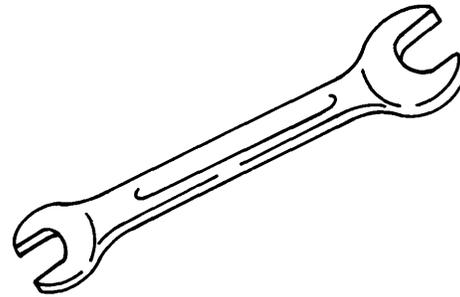
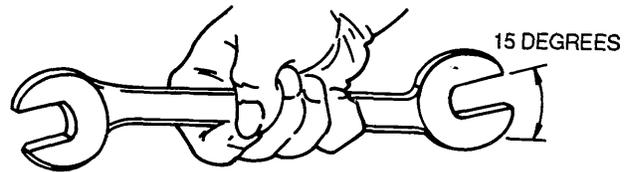

Figure 4-20. Open-End Wrench
Figure 4-21. Open-End Wrench Jaw Offset
(1) **Open-end wrenches.** Open-end wrenches have two parallel jaws at each end of a bar, as shown in figure 4-20. The jaws of an open-end wrench are usually machined 15 degrees from parallel to the centerline of the wrench, as shown in figure 4-21. The two ends of each wrench fit consecutively-sized nuts such as 3/8- and 7/16-inch, 1/2- and 9/16-inch, and so on.